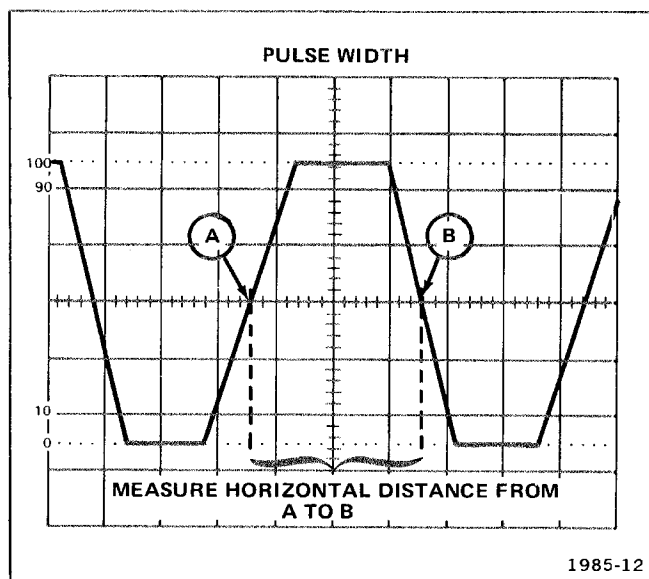

Fig. 2-7. Measuring the pulse width of a displayed waveform.
3) Set the TIME/DIV switches and 7B90P POSITION control for 1 complete pulse displayed within the center 8 graticule divisions as shown in Fig. 2-7.
4) Measure the horizontal distance in divisions between the 50% amplitude points of the displayed pulse (see Fig. 2-7).
Example: Assume that the horizontal distance between the 50% amplitude points is 3 divisions, and the TIME/DIV setting is 0.1 ms (see Fig. 2-7).